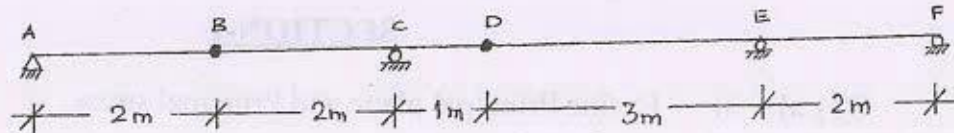

Fig. 2 [Q.3 b]
- b) Construct the influence line diagrams for the reactions at the supports at A, C and F for the compound beam shown in fig.2.